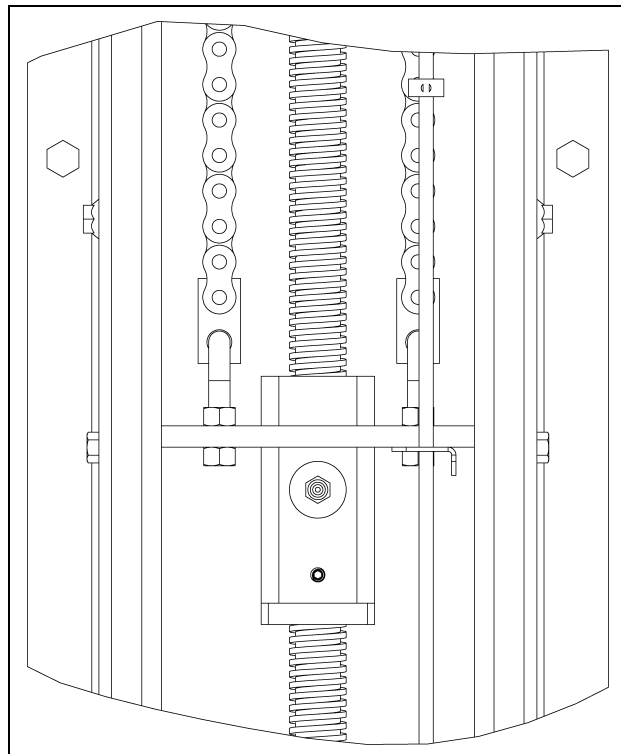

Figure 3D
7. Insert the chain into the top of the machine onto the sprocket and pull down through the machine until the chain reaches the chain adapter. (See Figure 3D.)
8. Fasten the chain to the chain adapter by using the master link. (See Figure 3D.)